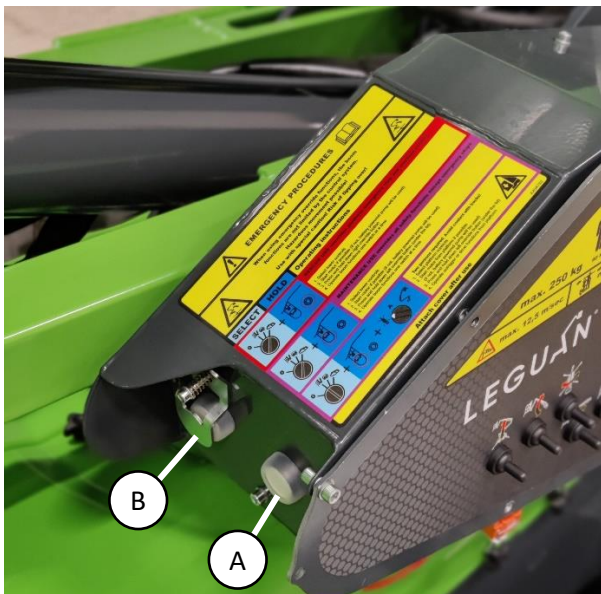

Figure 9. Override buttons
For possible emergency situations the access platform is equipped with load control and platform emergency stop button override button (figure 9 (A)). The button must only be used in **extreme emergency situations**, for example the operator has lost consciousness in the platform, the emergency stop button has been activated and the must be lowered for their safety. The platform must be moved to directions that decrease the overturning moment (towards the center of the machine). **The manufacturer is not responsible for misuse of the function!** The override button is located on the left-hand side of the lower control panel and is only operational
3. Press and hold the override button closer to the operator (figure 9 (A)).
For possible emergency situations the access platform is equipped with a safety function override button (figure 9 (B)). It enables the operation of drive, outrigger and boom functions in fault situations. The function can for example used in a situation where a sensor has broken, and the machine must be moved to a safe location to be repaired. **Use extreme caution and only in emergency situation!**
3. Press and hold the override button under the lid further from the operator (figure 9 (B)).